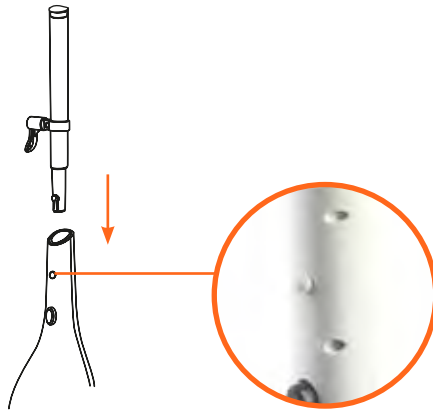

Figure 2
STEP 2: Insert the assembled handle section into the steam mop main body until it clicks into place (figure 2).
Note: The handle can be removed from the steam mop body for easy storage by pressing the handle release button shown in figure 2.